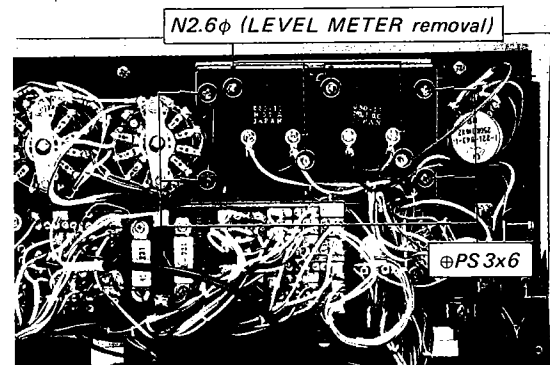

Fig. 2-6. Meter bracket removal
2. Remove the four screws ( $\oplus PS 3 \times 6$ ) securing the meter bracket to the front subchassis as shown in Fig. 2-6. This frees the meter bracket.